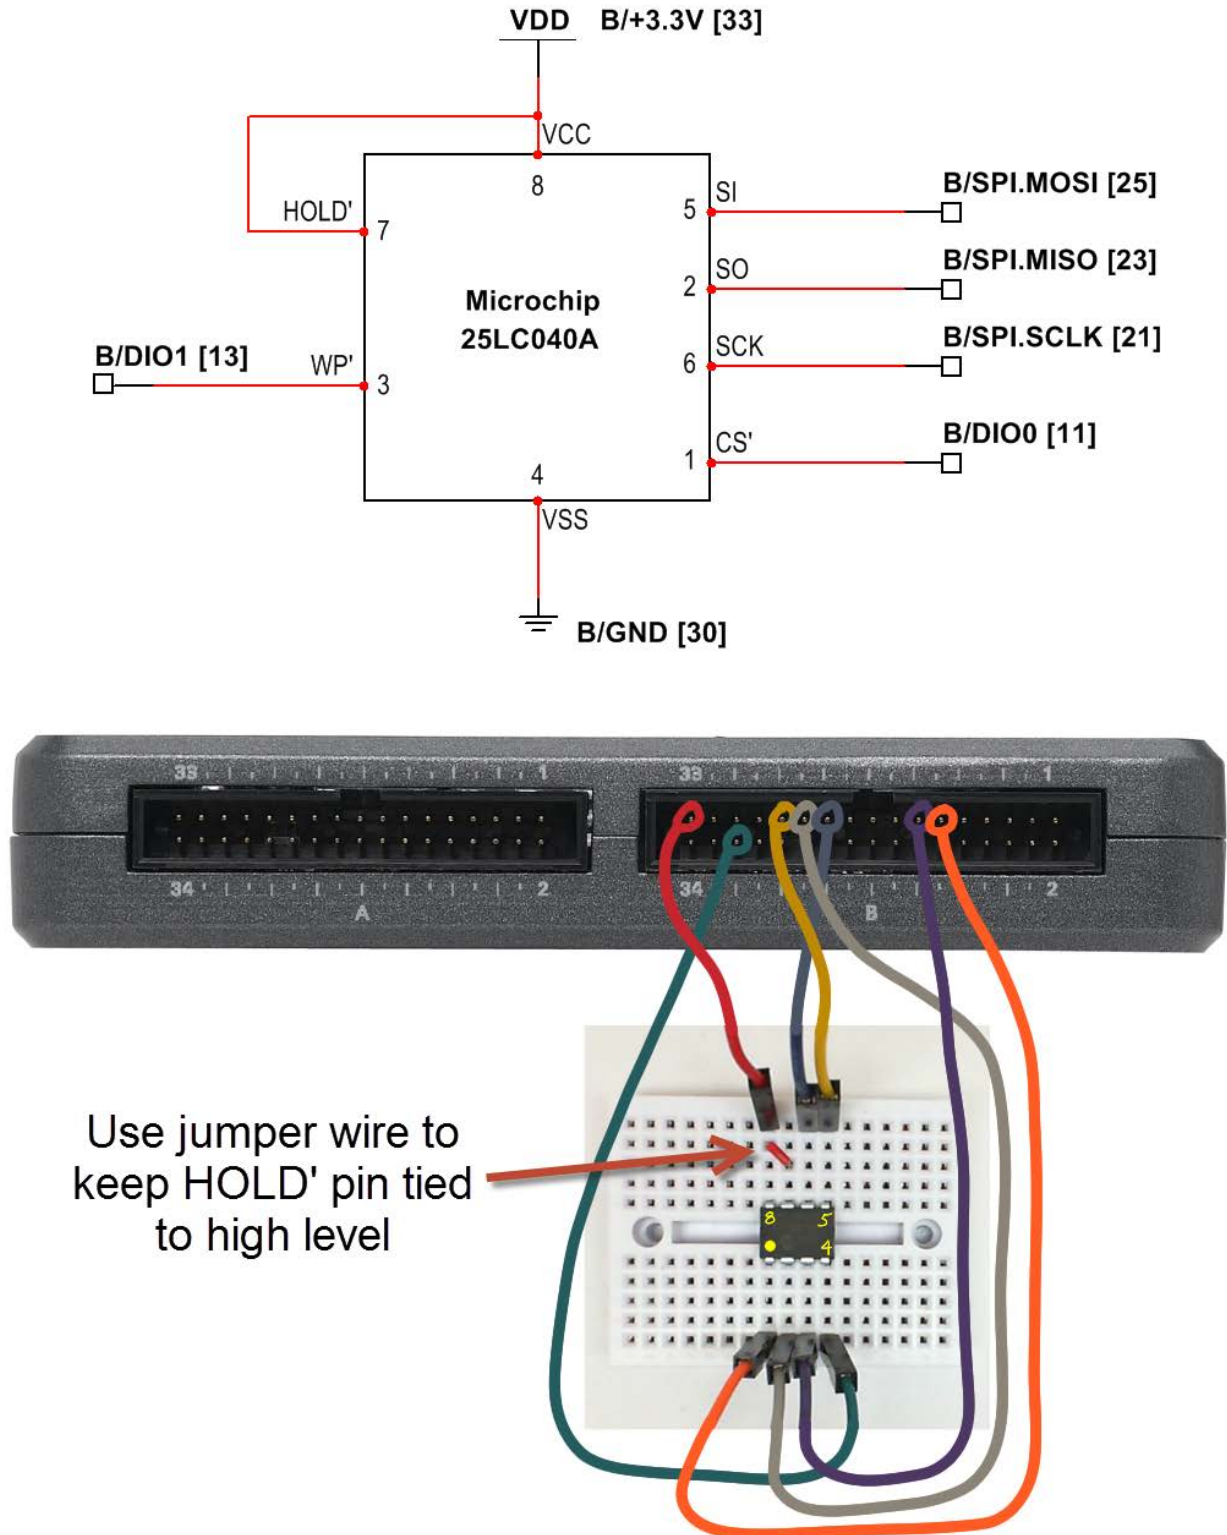

Figure 30.2: Demonstration setup for serial EEPROM connected to NI myRIO MXP Connector B.
**Build the interface circuit:** Refer to the schematic diagram shown in Figure 30.2 on the next page; the serial EEPROM requires six connections to NI myRIO MXP Connector B (see Figure A.1 on page 233):